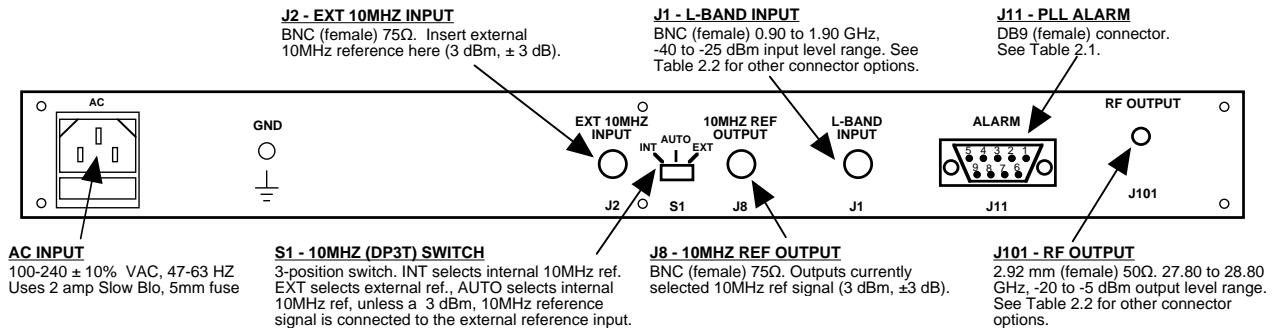

FIGURE 2.1 2115-278# Rear Panel I/O's
2.2 Rear Panel Input/Output Signals - Figure 2.1 shows the input and output connectors on the rear panel.
1. Connect a -40 dBm to -25 dBm signal to L-BAND INPUT, J1 (Figure 2.1).
5. Select either INT (for internal 10MHz ref), AUTO (for internal 10MHz ref UNLESS a external 10MHz, 3 dBm signal is connected to J2), or EXT (for external 10MHz, 3 dBm ref that is inserted at J2) on rear panel switch S1 (Figure 2.1).
7. Check that a 10MHz, 3 dBm \pm 3 dB signal is present at the 10MHZ REF OUTPUT (J8) (Figure 2.1).